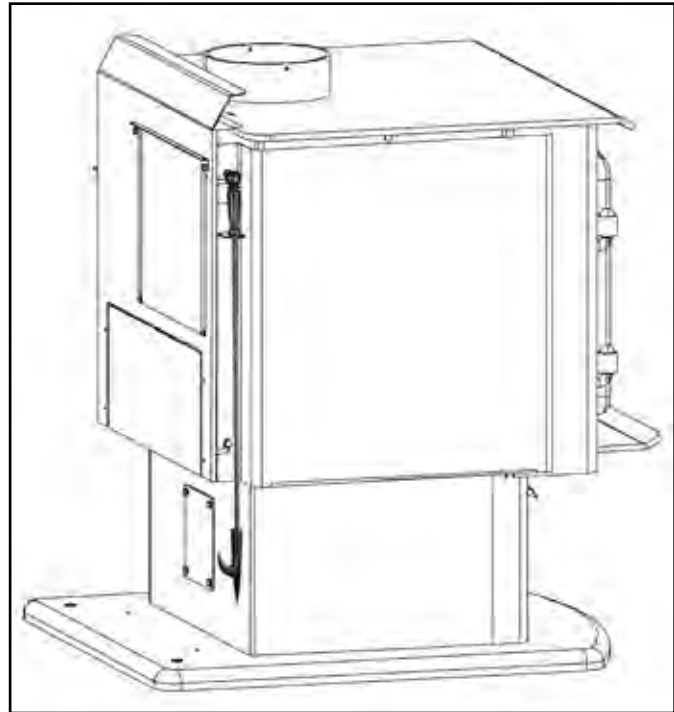

Figure 58: Fireplace poker hanging.
4. Remove the screw, using a $\frac{5}{16}$ " socket or wrench, that goes down through the firebox top into a bent over tab at the top of the shroud (see A in Figure 58).
5. To remove the shrouds, loosen the two (2) torx T-20 screws that hold the shroud to the unit (See B in Figure 58). Pull the shroud forward past the T-20 screws (approximately $\frac{3}{4}$ " [2cm]), then out to the side.